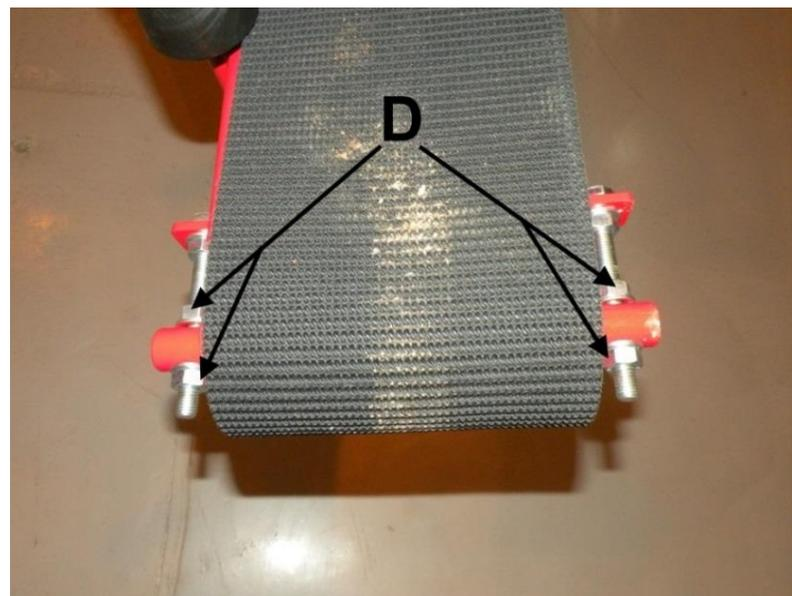

Figure 29
9. Turn the conveyor back to the operating position and tighten the belt. Use adjustment nuts D (Figure 29) to adjust the belt.